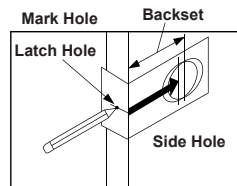

Fig. 14
**Step 1.** Using the provided template, mark the locations for the centers of the backset and the latch hole (Fig. 14).